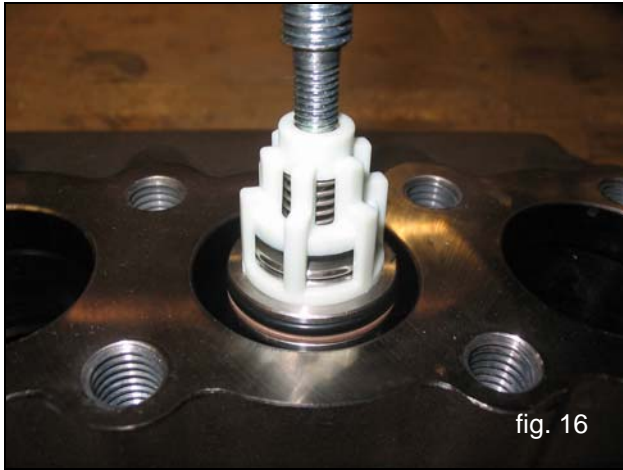

fig. 16
E) the suction valve units (fig. 16).